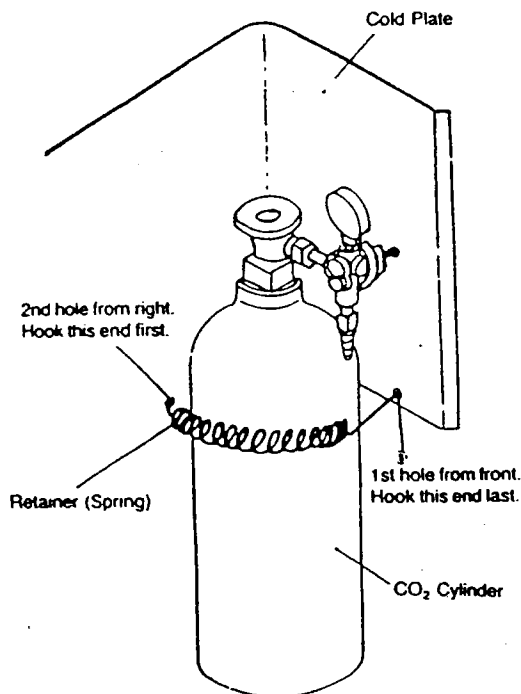

Fig. 2
- Place CO₂ cylinder at right rear corner inside beer dispenser cabinet in upright position. Fasten CO₂ cylinder with CO₂ cylinder retainer (spring) provided. Hook both ends of retainer to holes in cold plate. (See Fig. 2.)